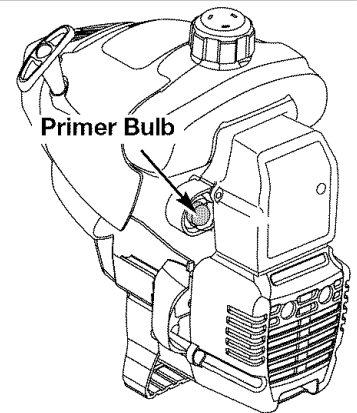

Fig. 4
**NOTE:** There is no need to turn the unit on. The On/Off Stop Control is in the ON (I) position at all times.
3. Fully press and release the primer bulb 10 times, slowly. Some amount of fuel should be visible in the primer bulb and fuel lines (Fig. 4). If you can't see fuel in the bulb, press and release the bulb as many times as it takes until you can see fuel in it.